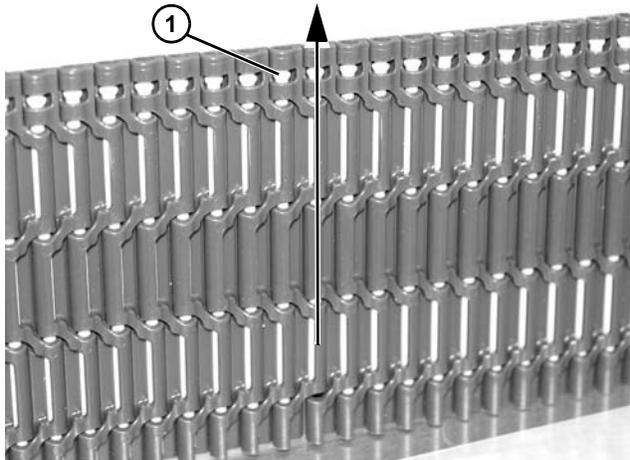

Figure 59
Note that head of pin (**Figure 59, item 1**) should be removed in direction shown.